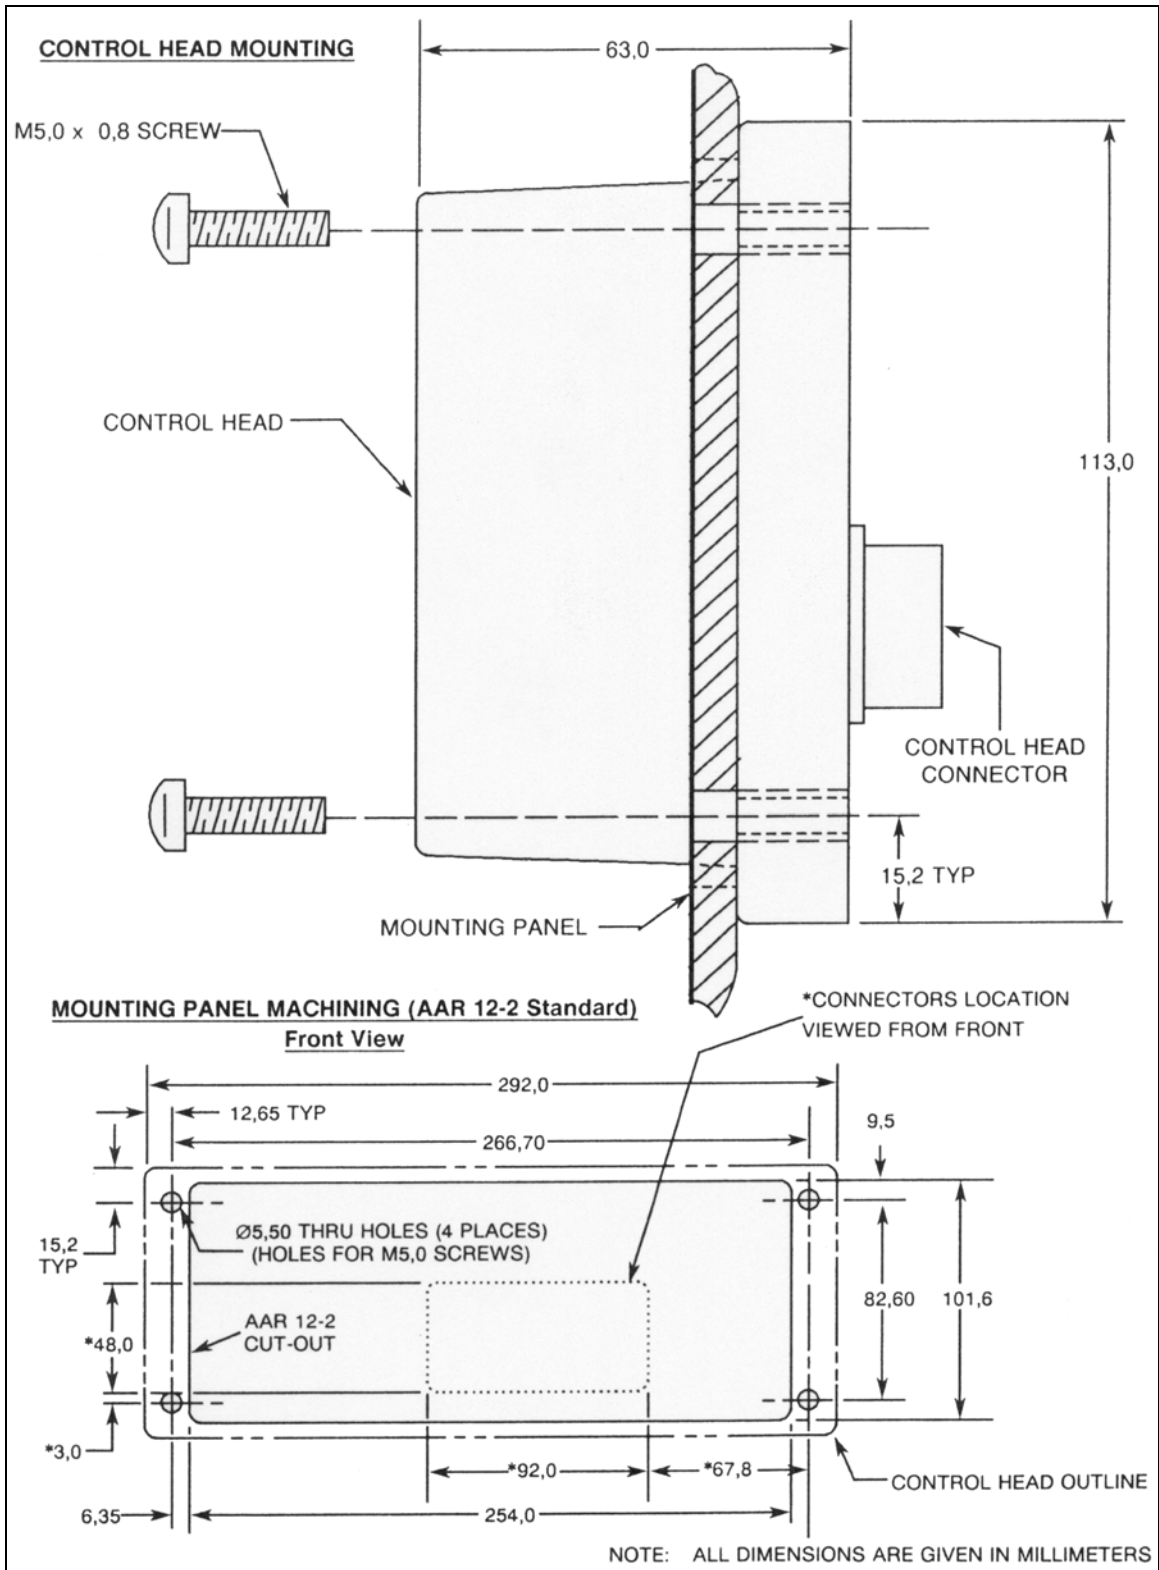

Figure 2-1-5 Remote Control Head Thru-Hole Mounting
Figure 2-1-5 illustrates the control head installation into the standard 4" x 10" (10.16 cm x 25.4 cm) AAR 12-2 control stand opening. The front panel of the control head is passed through the control stand opening and is secured to the control stand using four M5.0 x 0.8 machine screws (the control head bracket has pre-threaded holes). Adequate space must be left behind the control head to allow for access to the two cable connectors. Refer to 5.1, Control Head Cable, for information concerning the cable connections.
1. Pick a suitable location for installation, observing cabling and connector requirements, and drill four holes in the mounting surface using a #4 drill bit (use the control head as a template, or refer to the dimensions given in Figure 2-1-5).
2. Cut out a 48 mm x 92 mm section of the mounting surface at the location specified in Figure 2-1-5, to accommodate the two control head connectors.